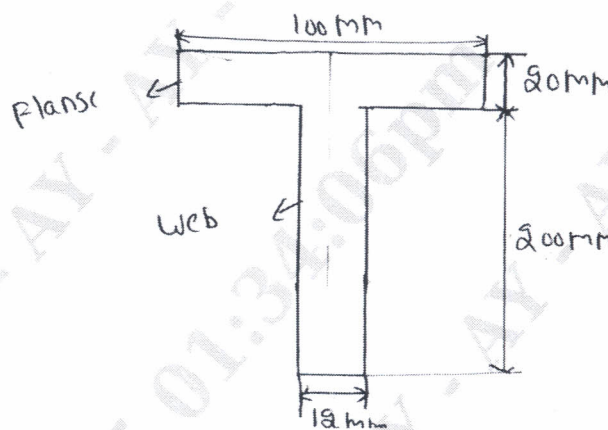

Fig.Q.7(b)
- b. A cantilever has a length of 3 m, its cross-section is T-section as shown in Fig.Q.7(b) and flange is in tension. What is the intensity of Uniformly Distributed Load (UDL) that can be applied if the maximum tensile stress is limited to  $30 \text{ N/mm}^2$ . Also compute the maximum compressive stress. (10 Marks)